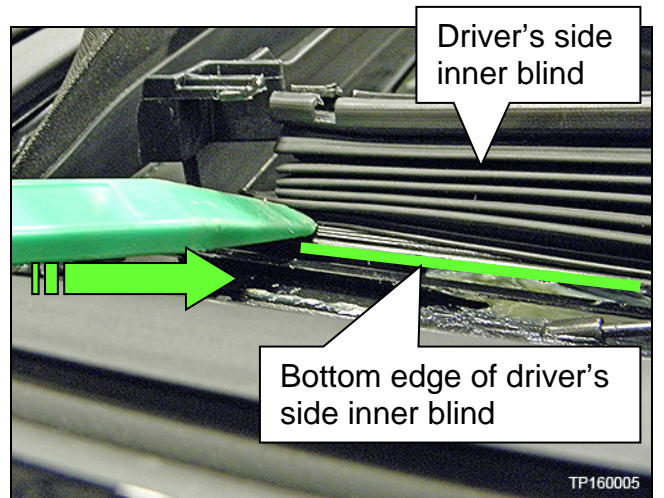

Figure 36
- b. Carefully detach the inner blinds from the Moonroof frame by pushing toward the inside of the vehicle along the bottom edge of inner blind (Figure 36).